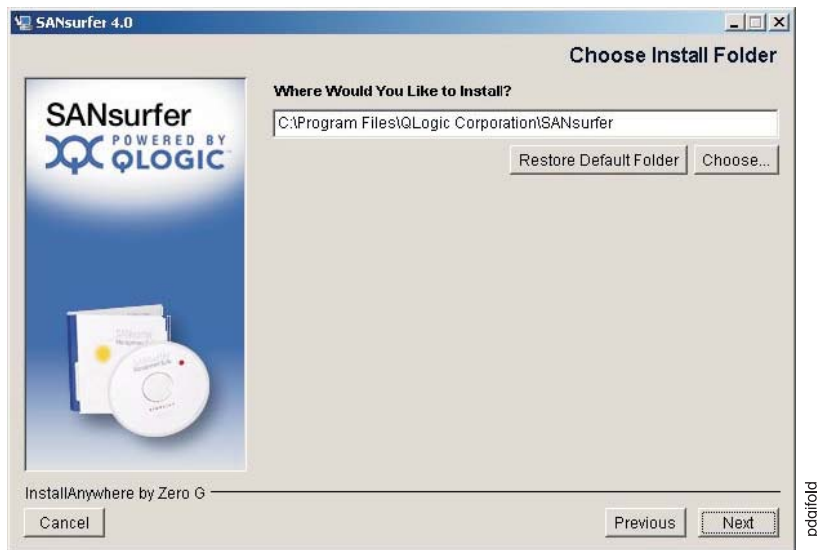

Figure 5. Choose Install Folder window
5. The Choose Install Folder window opens as shown in Figure 5.